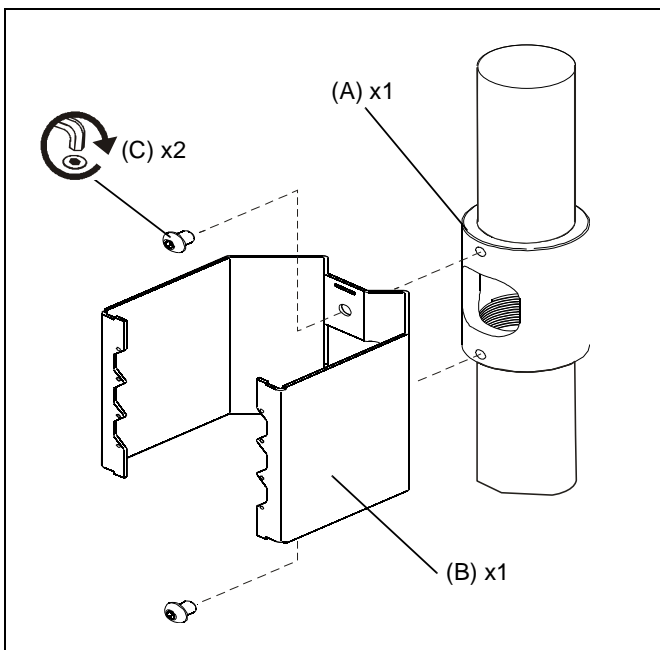

Figure 2
2. Secure mounting plate (B) to coupling using two button head cap screws (C). (See Figure 2)